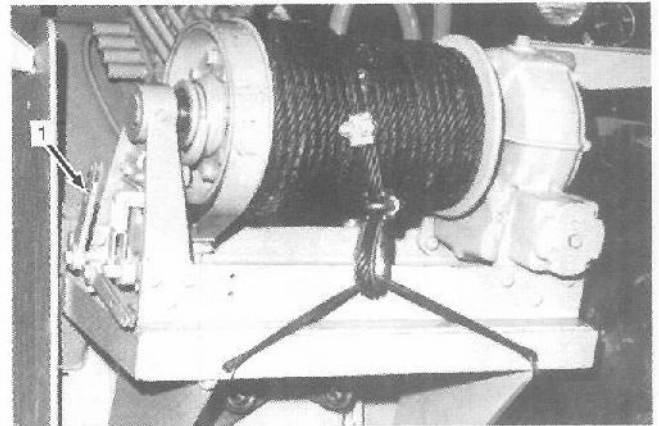

Figure 35: 1-Drum Release Clutch Lever
Winch Operation (Fig. 35)
3. After cable is secured to the load, re-engage drum clutch using lever (1-Fig. 35).